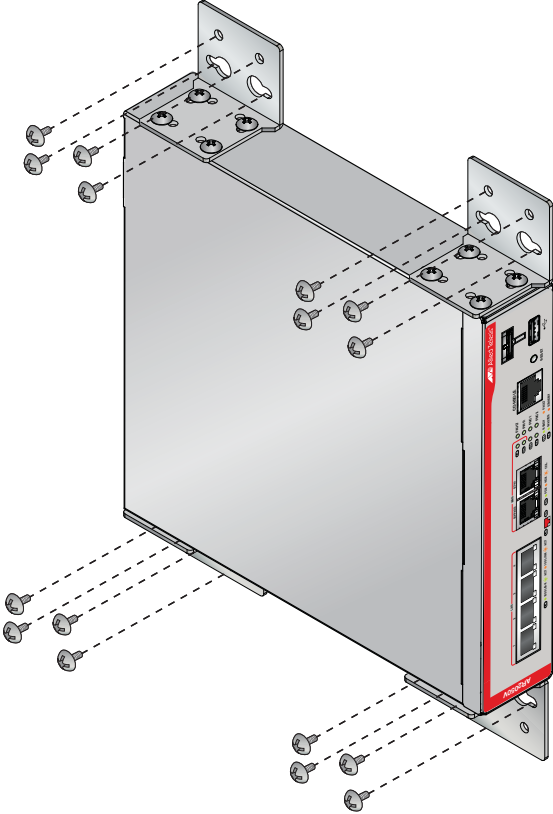

Figure 30. Securing the router to the wall
- 5. While another person holds the router at the wall location, secure it to the wall using the 16 wall mounting screws. See Figure 30.